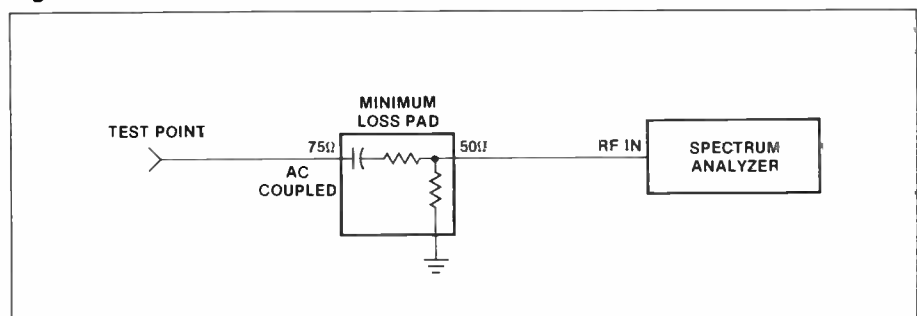

Figure 6-2 Equipment interconnection for co-channel measurements
1. Interconnect the equipment as illustrated in figure 6-2.